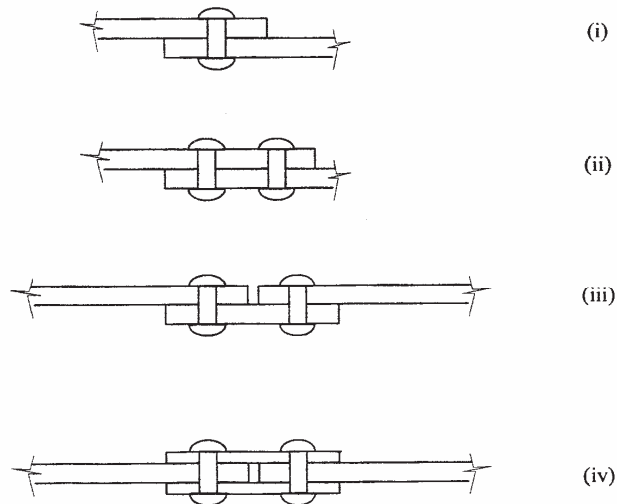

Figure 1
- (b) Name the **four** types of riveted joints shown in figure 1. (2 marks)